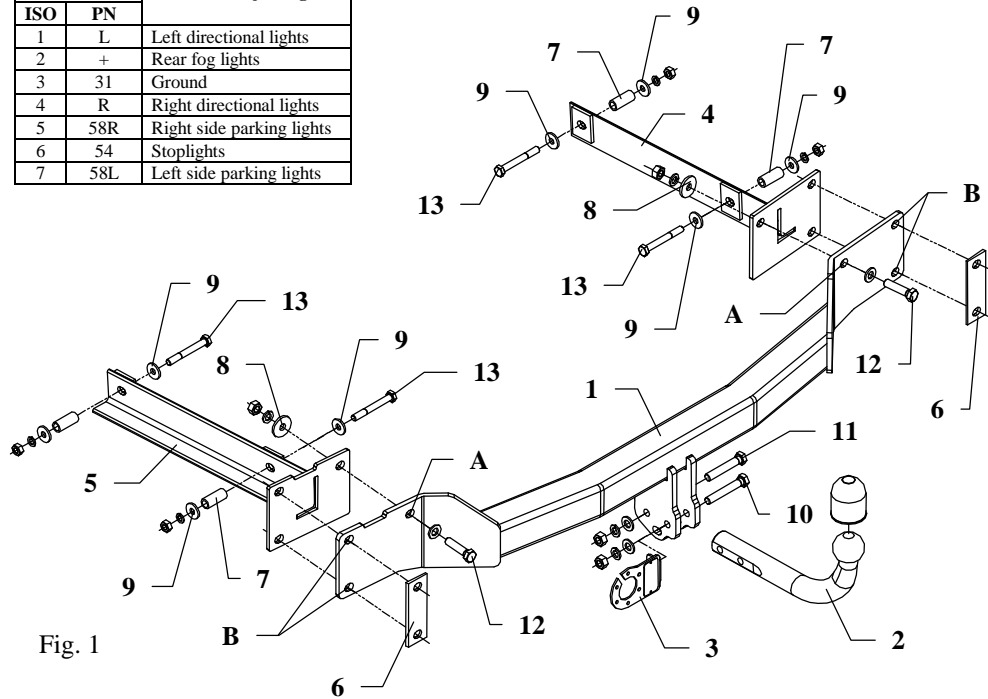

Fig. 1
6. Slip side arms (pos. 4 and 5) to chassis members and fix them (in accordance with fig. 1) using bolts M10x80mm (pos. 13). Use distance sleeves (pos. 7) and large washers (pos. 9).
7. Apply the main bar of the towing hitch (pos. 1) to already installed side arms and fix it trough holes A using bolts M12x50mm (pos. 12). Use large washers (pos. 8).
8. Install fulfilment of the bumper and heat shields. Install the bumper in points B using original bolts and cut fish-plates (pos. 6).
10. Fix tow ball (pos. 2) using bolt M12x75mm (pos. 10) and M12x70mm (pos. 11). With bolt M12x75mm fix also a socket plate (pos. 3). See figure 1.